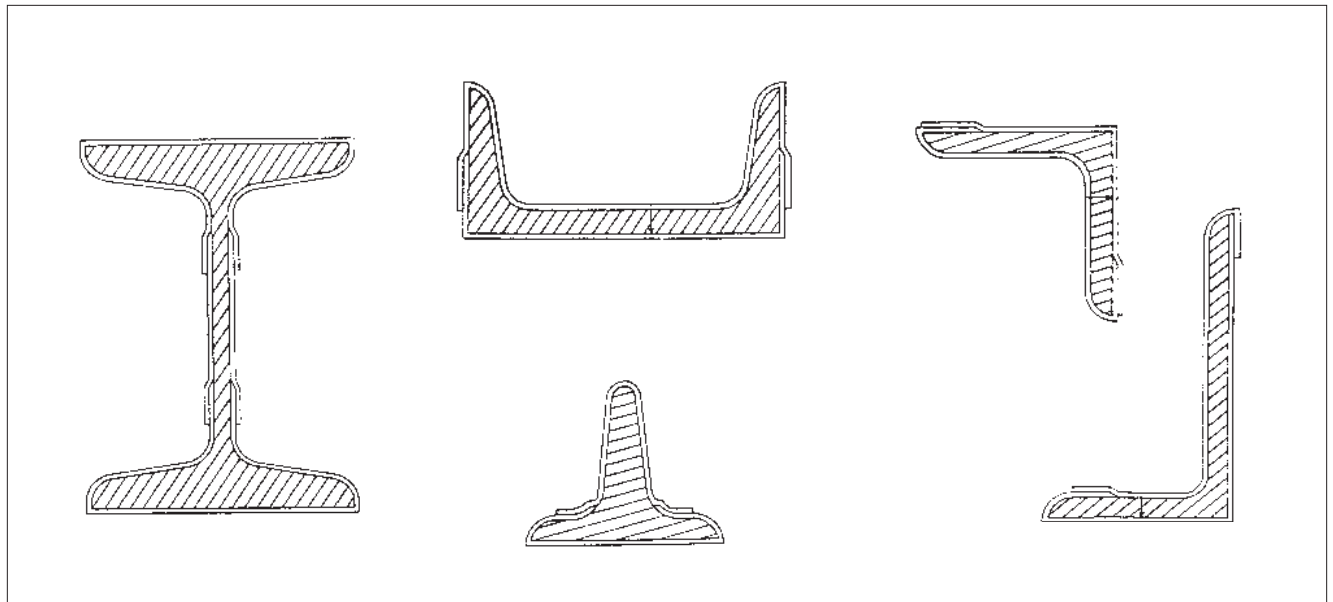

Figure 3
- 10.2 Use Denso Hi-Tack Primer & Denso Hi-Tack Tape which permit overlaps of at least 1" (25 mm) to be made in a downward direction (weatherboard effect) on vertical surfaces. Minimize the overlaps on the underside of horizontal surfaces (See Figure 3).
- 10.10 See Figure 3 for examples.